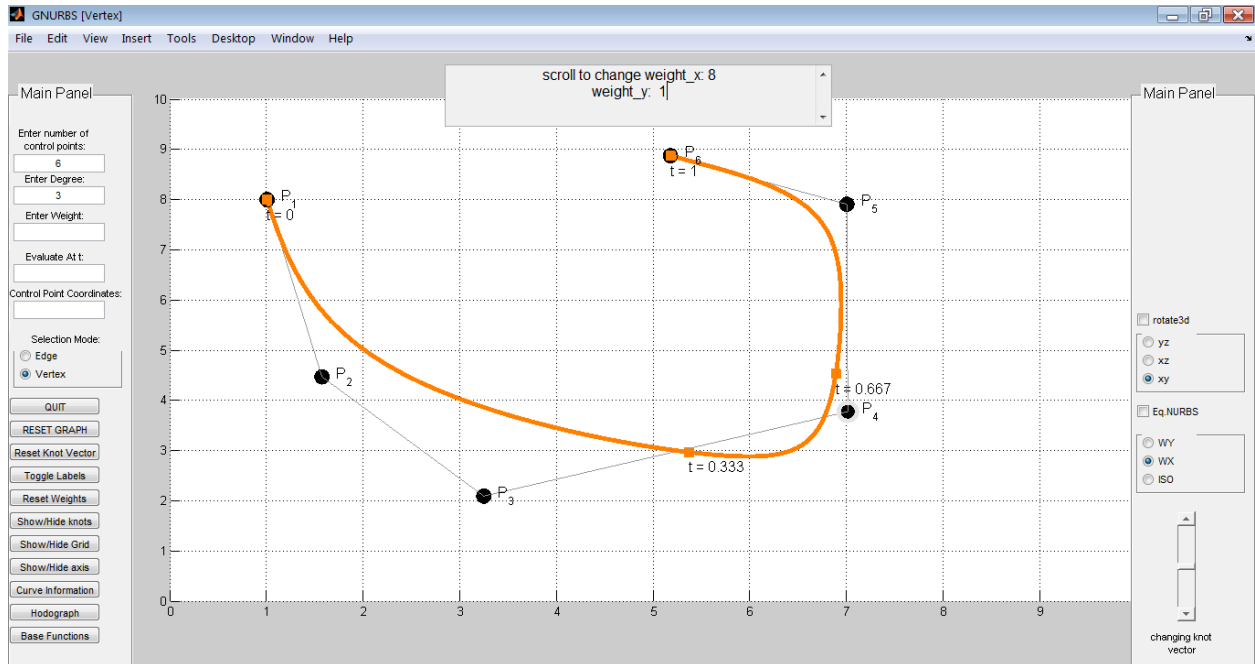

Figure 5: Changing the weight of P_4 in the x direction to 8.
The method of changing the weights can be selected from the right panel (21). For example, to change the weight of P_4 in the x direction, select WX, then select P_4 by right clicking on it and then scroll to update the curve. The value of WX or WY updates in the status field as the user scrolls. In Figure 5, the weight of P_4 in the x direction is set to 8.